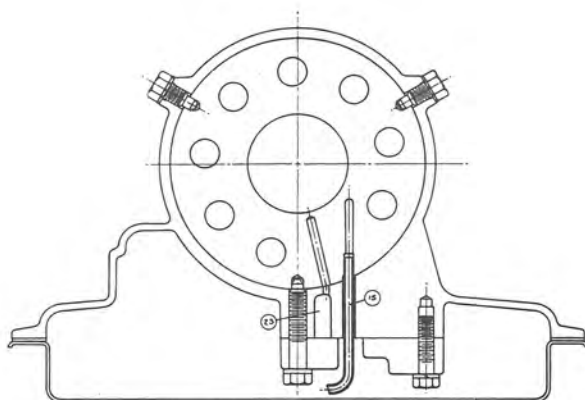

Fig. 4-91. Center support, retention and passages
32. From the outside of the transmission case remove the two centre support screws, see Fig. 4-91. With-
9. Turn the fluid passage holes in the center support upwards and fit the assembled unit into the transmission case. (Note that the holes point downwards when the transmission is turned the right way up, see Fig. 4-91.)